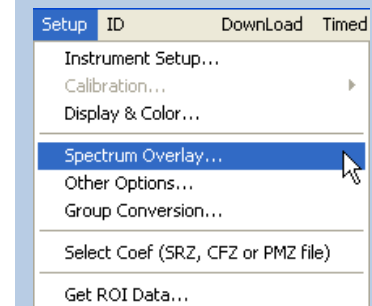

Figure 23 Setup Menu
1. From PXRF Menu Bar, **SELECT** *Setup > Spectrum Overlay* (Figure 23).